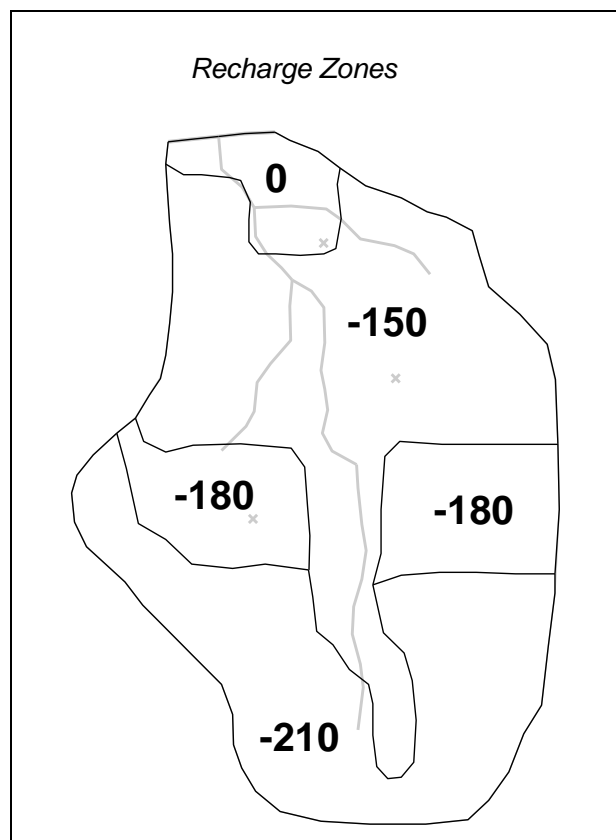

Figure 4 Recharge zones and parameter key values
Next, it is necessary to set up the recharge zones. The recharge polygons are shown in Figure 4. The five polygons will be used to define four parameter zones. The polygon at the top end of the model is relatively small; it is isolated from the majority of the observation wells, and it is down gradient from the wells. As a result, it is not a good candidate for parameter estimation. This tutorial will fix the recharge in this zone at zero. The key values will be associated with the other four polygons to define four parameter zones as shown.
2. Using the **Select Polygon**  tool, double-click on the top center polygon as shown in Figure 4 to open the *Attribute Table* dialog.
4. Repeat steps 2-3 for the remaining four recharge polygons, entering the appropriate values from Figure 4.